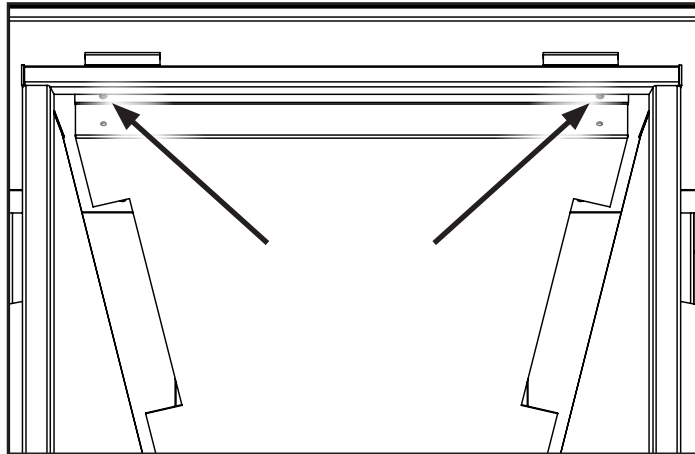

Figure 42. Baffle Screws.
2. Remove the firebox baffle by unscrewing the two screws indicated in Figure 42 using a T20 screwdriver. Lower the front of the baffle down and then lift it out of the two locating screws at the rear of the firebox.